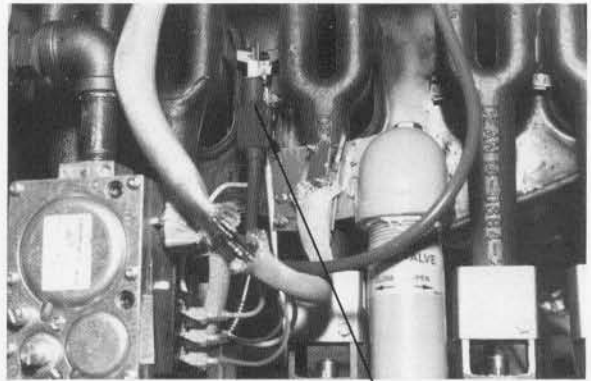

Figure 27
17. Remove high-voltage lead and flame sensor wire from ignitor (Fig. 27).